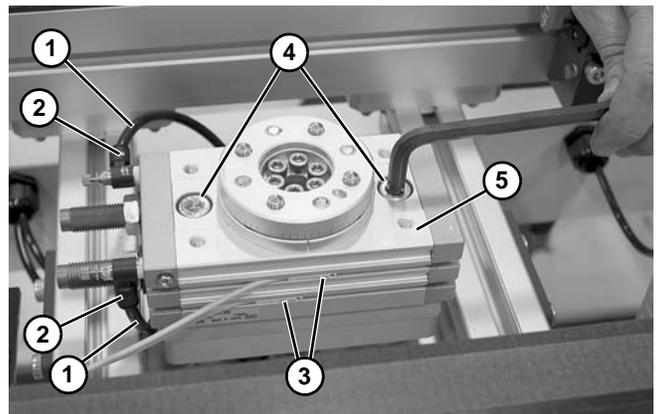

Figure 124
5. Remove tubing (**Figure 124, item 1**) from the fittings (**Figure 124, item 2**) on the rotating actuator.
6. Remove optional sensors (**Figure 124, item 3**), if installed. Remove socket head screws (**Figure 124, item 4**) and rotating actuator (**Figure 124, item 5**).